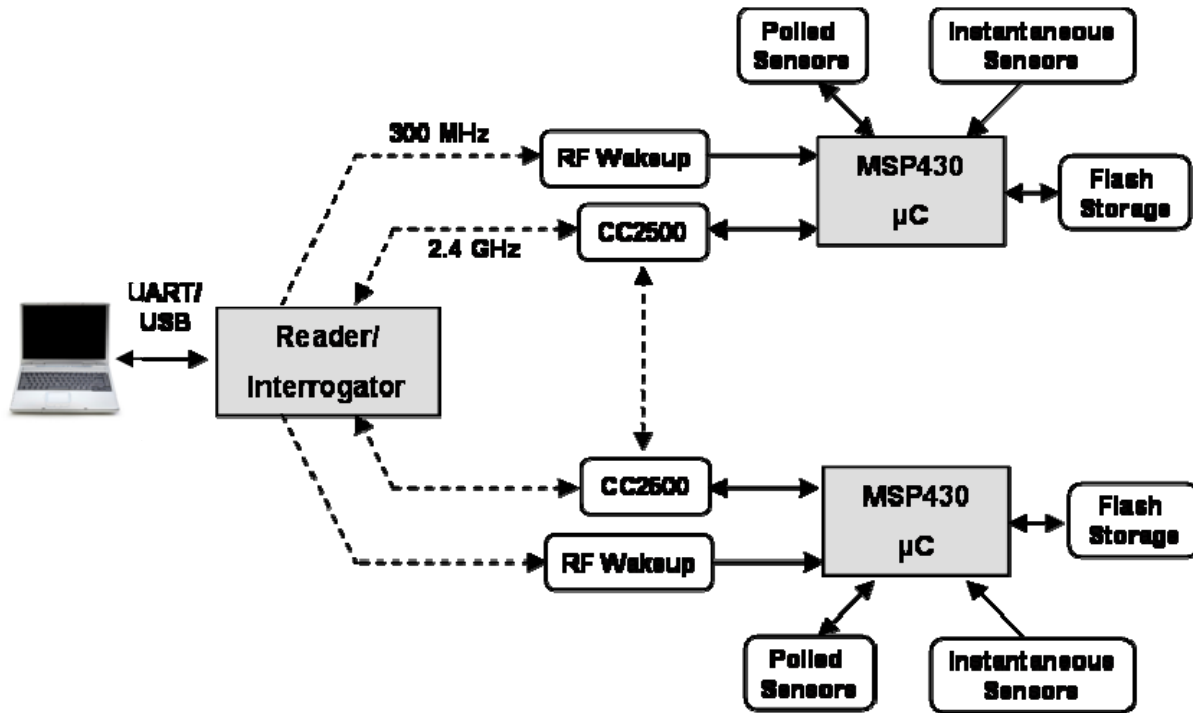

Figure 2.10 - CargoNet system diagram [Mateusz07]
Figure 2.10 is a system diagram with the CargoNet “active RFID” tags and RFID reader. Its core hardware consists of the MSP430 microcontroller, real-time-clock, and CC2500 2.4GHz radio. The **MSP430F135 flash-based microcontroller is made from Texas Instruments (TI)**. It has a specified standby current of less than 0.1 $\mu$ A when entering sleep state.